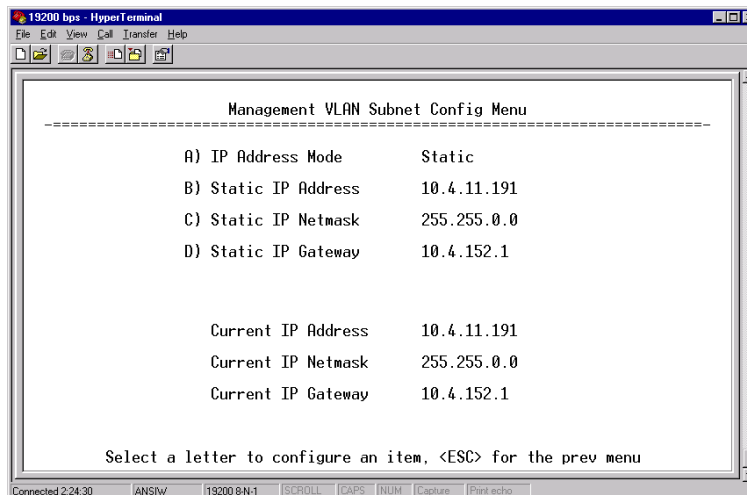

Figure 3-16. Management VLAN Subnet Configuration Menu
- **Management VLAN Subnet Config**—Presents a screen where you can set the IP Address Mode, Static IP Address, and Static IP Netmask (see Figure 3-16 on Page 50).